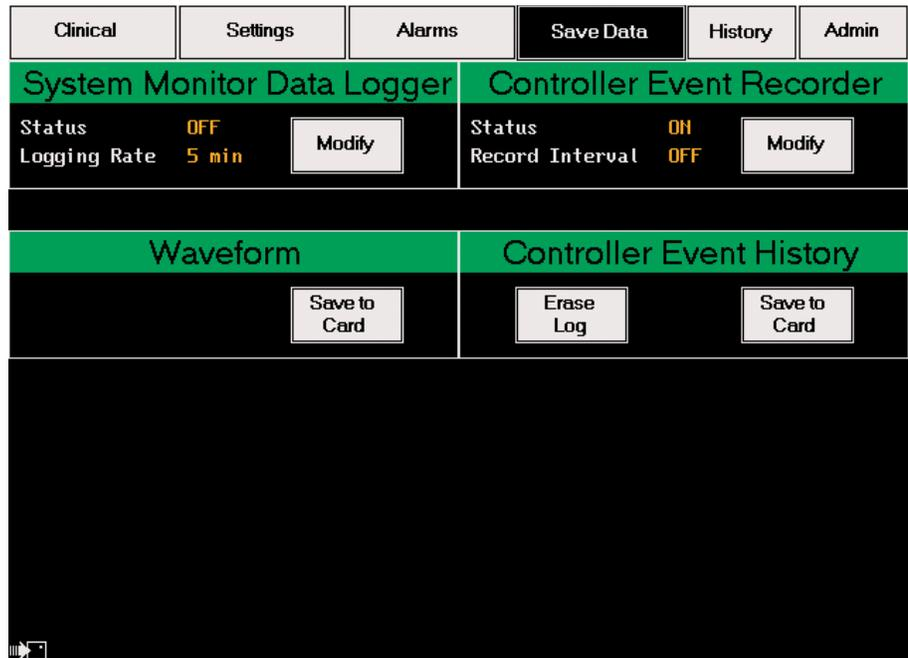

Figure 17 Sample Save Data Screen
The Save Data Screen (**Figure 17**) allows users to change the status of and the rate at which events are recorded on the System Monitor data logger and System Controller event recorder. It is also used to save waveforms with motor performance or information stored in the System Controller event recorder to a data card.
The System Monitor data logger collects and stores system performance data at a set time interval directly onto a data card inserted into the side of the System Monitor. The status indicator (**Figure 17**) specifies whether the logging feature is on or off. The logging rate indicator specifies the frequency with which data is collected and stored to the data card. Frequency options are 15 seconds, 30 seconds, and one minute intervals from 1 to 60 minutes. The data logger automatically turns off when the patient is disconnected from the PBU and must be turned back on when the patient is reconnected.
- 1) **As events occur:** The System Controller will automatically record any alarm or change in fixed speed as it occurs. Therefore, the status indicator in the Controller event recorder box (**Figure 17**) will always specify that the recording feature is on.